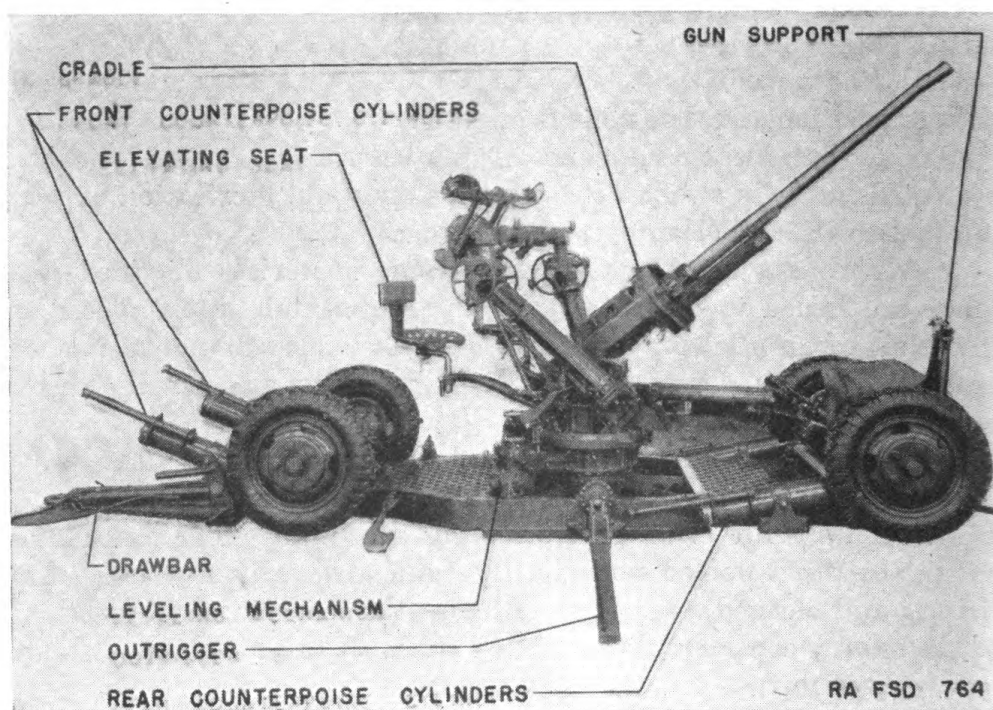

FIGURE 21.—37-mm gun in firing position.
16. Nomenclature.—Q. Point out the various parts shown in figure 21. **A.** See figure 21.